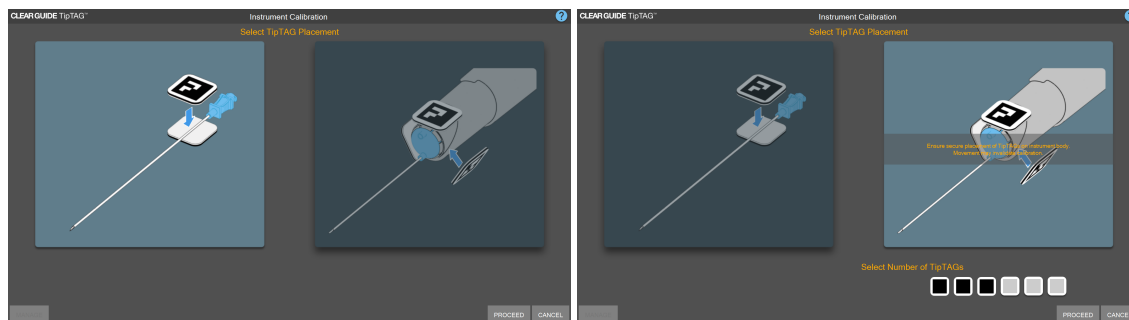

Figure 22: Selection of TipTAG placement: double-sided on shaft (left); multiple markers on body (right)
- Choose TipTAG markers placement type: instrument shaft or body (see Figure 22).
- Select the desired/chosen TipTAG placement (Figure 22). For TipTAG markers attached to the instrument body, indicate the number of markers attached.